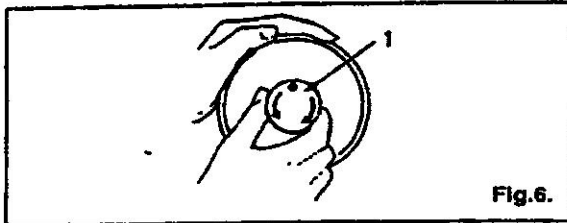

Fig.6.
1. Stop motion needle by loosening stop-motion screw (1), Fig.6. Hold hand wheel with left hand and turn stop-motion screw toward you with right hand.
2. Place bobbin on bobbin winder spindle (3), Fig.7, pushing it on as far as it will go. Pre-tension (1) (See Fig.6.)